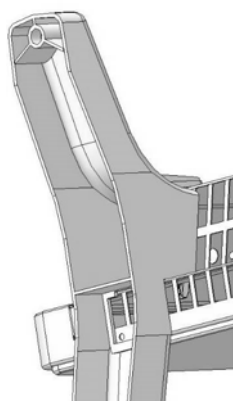

Fig. 3.1
4.5 For using of the convector on the floor, set the support, as shown in Figures 3.1 – 3.3.